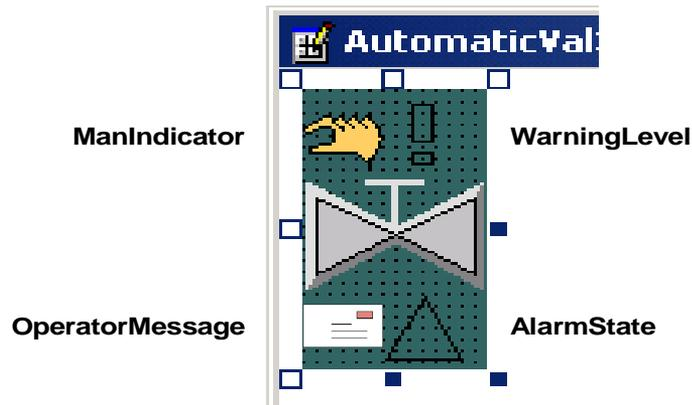

Figure 115. Creating a Valve Element
3. **Create a Graphic Element** aspect for the Valve Object Type and name it e.g. Valve Element. See Figure 115.